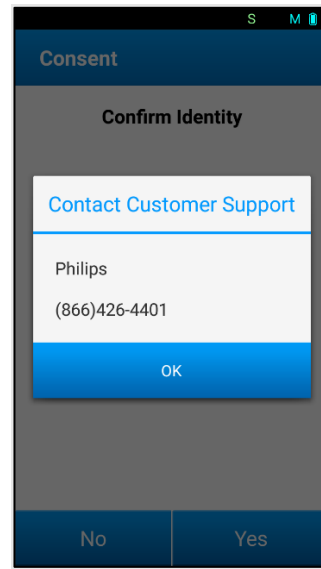

Figure 13.3-2 Contact Support
- If 'No' was mistakenly pressed on the Confirm Identity screen when you as the patient were identified on that screen, press 'OK' on the *Contact Support* screen, and select 'Yes' when the *Confirm Identity Consent* screen appears. If any issues persist, call your prescribing physician or Customer Service (See Figure 13.3-2).